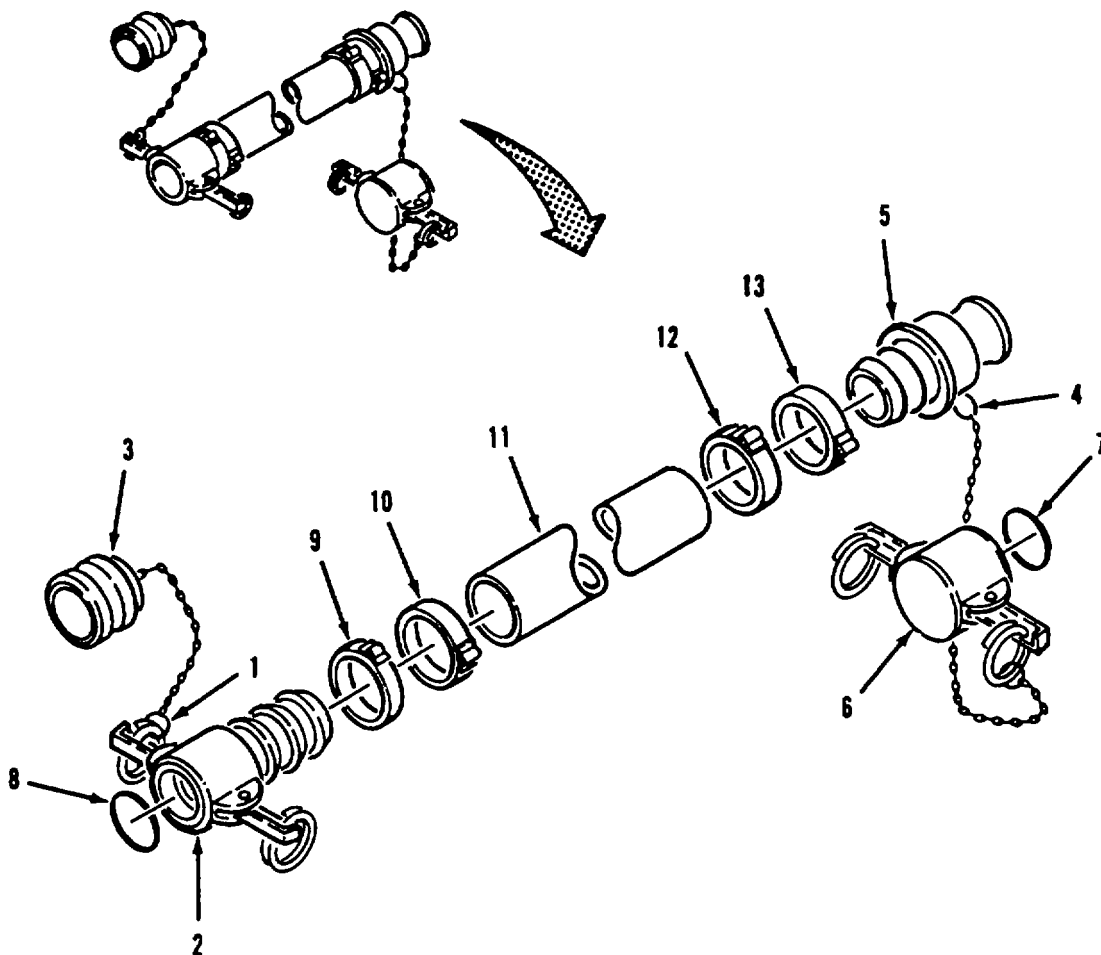

Figure 4-4. Discharge and Suction Hose Disassembly
a. Disassembly. Refer to Figure 4-4.
- (1) Disconnect split ring (1) from female coupling (2) and remove dust plug (3).
- (2) Disconnect split ring (4) from male coupling (5) and remove dust cap (6).
- (3) Remove gasket (7) from dust cap (6).
- (4) Remove gasket (8) from female coupling (2).
- (5) Cut strapping (clamps) (9 and 10) from hose (11). Pull female coupling (2) from hose.
- (6) Cut strapping (clamps) (12 and 13) from hose (11). Pull male coupling (5) from hose.
- (1) Push male coupling (5, Figure 4-4) and female coupling (2) into hose (11).